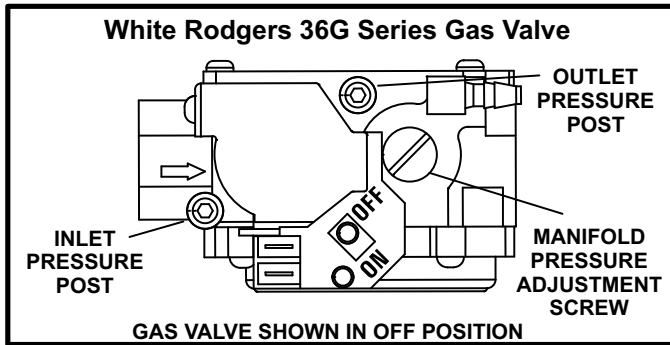

FIGURE 57
Gas Valve Operation (Figures 57 and 58)
- 6 - *White Rodgers 36G Gas Valve* - Move gas valve switch to **OFF**. See figure 57 for the White Rodgers 36G valve.
8 - *White Rodgers 36G Gas Valve* - Move gas valve switch to **ON**. See figure 57 for the White Rodgers 36G valve
The White Rodgers 36G gas valve (figure 57) is equipped with pressure posts for measuring supply and manifold pressures. The posts provide built-in hose connections and have an integral 3/32" Allen-head screw. Rotate the screw counterclockwise one full turn to permit pressure measurement. Reseat the screw (rotate one full turn clockwise) after measurements have been taken to prevent gas leakage.